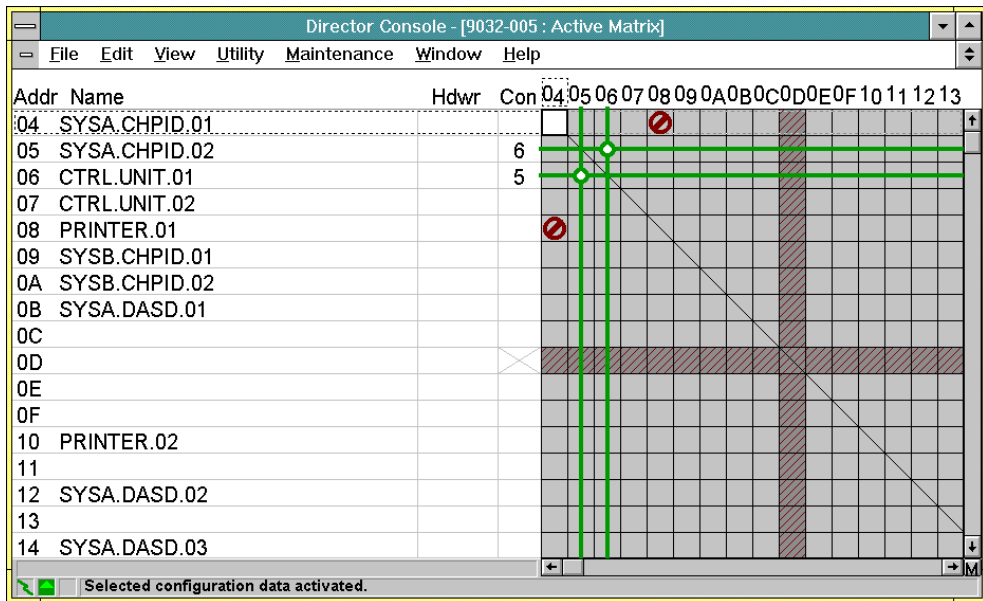

Figure 25. Matrix Window (Graphic Display Mode, No FCV Port Cards)
Graphic Display Mode - Figure 25 shows the Director matrix in graphic display mode with no FCV port cards installed (no FICON capability) and no logical partitioning enabled. Logical port addresses are listed on the left side of the matrix (under the *Addr* column) and above the matrix grid. Port addresses 04 through 13 are displayed.
- **Con** - A port address in this column indicates a dedicated connection to that port. An **X** in the column indicates a port is blocked. In Figure 25, ports *05* and *06* have a dedicated connection. This is indicated by a **6** in port row *05* and a **5** in port row *06*. Port *0D* is blocked.
- **Matrix Columns** - Each square in the matrix represents the intersection of one port row and one port column, and indicates connectivity status between the two ports. A blank matrix square indicates a connection between ports is allowed. A red circle with a slash in a matrix square indicates a connection between ports is prohibited. In Figure 25, a connection between ports *04* and *08* is prohibited.
In addition to an **X** in the **Con** column, diagonal red slashes through a matrix row and corresponding matrix column indicate a port is blocked. These red slashes in Figure 25 indicate port *0D* is blocked.
In addition to logical port addresses in the **Con** column, small white circles in matrix squares at the intersection of two ports indicate a dedicated connection. Solid green lines extend both horizontally and vertically from the circles to indicate other ports cannot have a dynamic connection to the dedicated ports. Figure 25 indicates ports *05* and *06* have a dedicated connection.